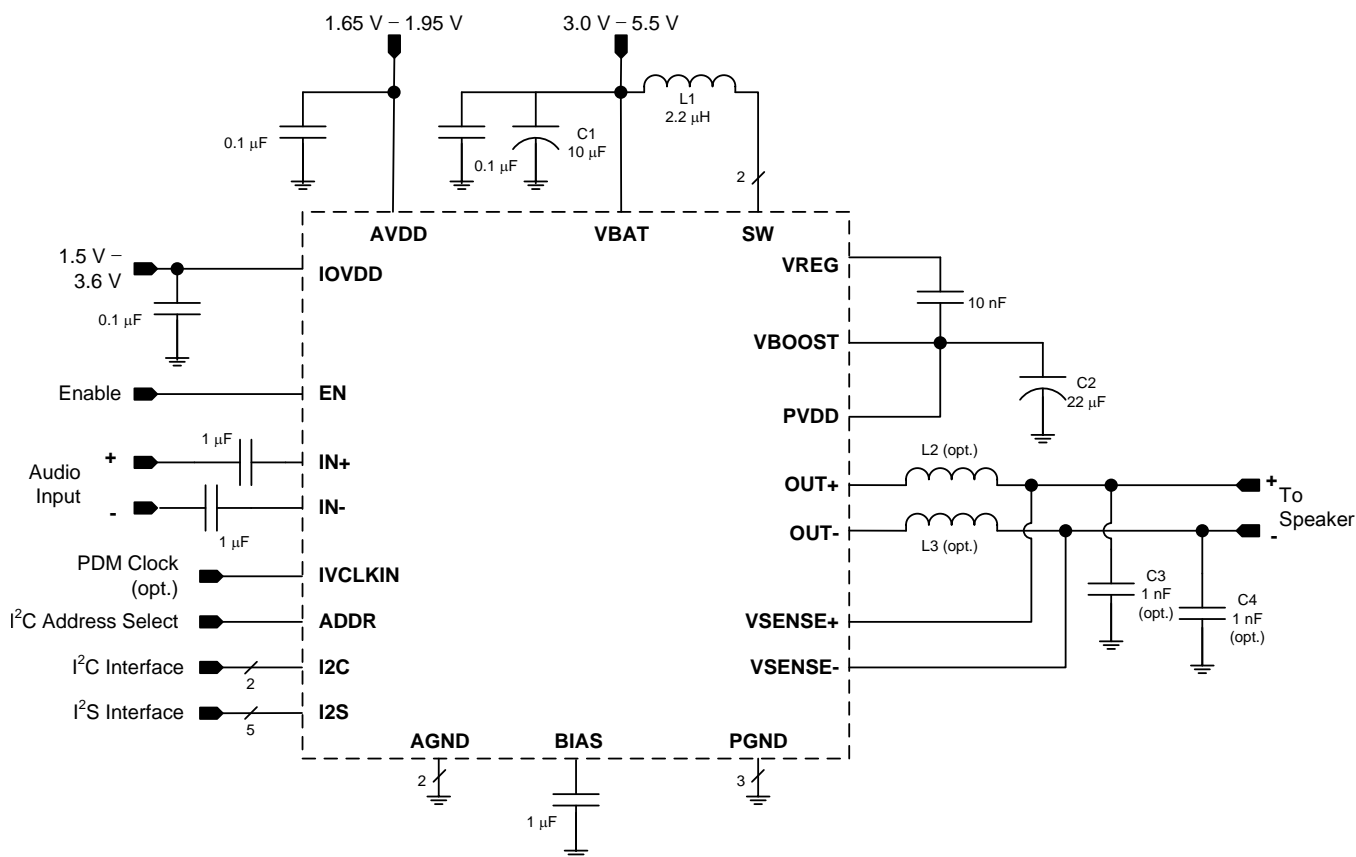

Figure 56. Typical Application Schematic
The decoupling capacitors for the power supplies should be placed close to the device terminals. For VBAT, IOVDD and AVDD, a small decoupling capacitor of 0.1  $\mu$ F should be placed close to the device terminals. Refer to Figure 56 for the schematic.
The boost supply (VBAT) and associated passives need to be able to support the current requirements of the device. The peak current limit of the boost is 2.5 A. A minimum of a 10  $\mu$ F capacitor is recommended on the boost supply to quickly support changes in required current. Refer to Figure 56 for the schematic.
- Use supply decoupling capacitors as shown in Figure 51 and Figure 56 and described in Power Supply Recommendations.